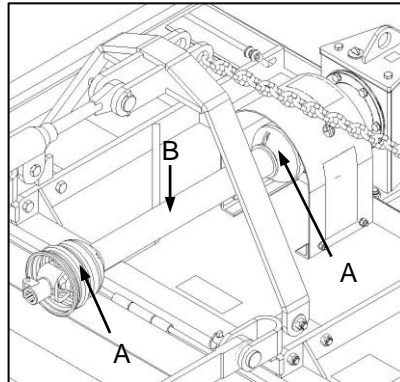

Fig. 6
- ✔ Apply grease to the universal joints (Fig. 6-A) and telescopic tubes (Fig. 6-B) of the PTO shaft.
- ✔ Ghries die kruiskoppelings (Fig. 6-A) en teleskopiese buise (Fig. 6-B) van die kragtakkeras.